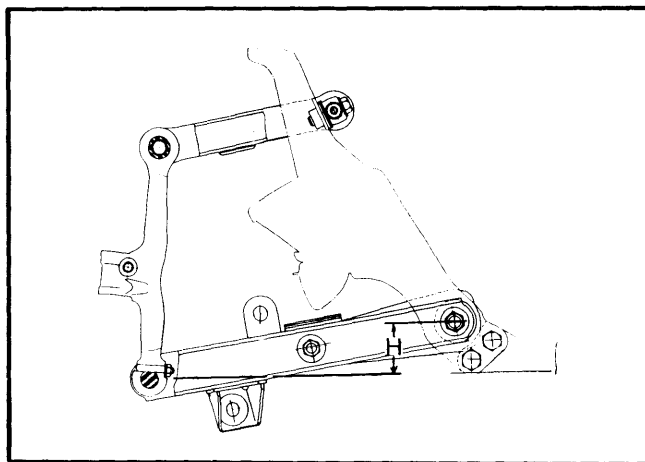

Fig. 1 Pickup Front Suspension Riding Height Measurement Points
**Pickup Only** – Make measurement with vehicle empty: Fuel tank full, radiator filled, oil levels up to marks, spare tire and hardware in position. Measure distance from center of lower control arm bushing (where it contacts to body) and lower steering knuckle bushing (See "H" In Fig. 1). To adjust, raise vehicle to release tension on anchor bolt adjusting nut and turn anchor bolt to adjust to specified height.